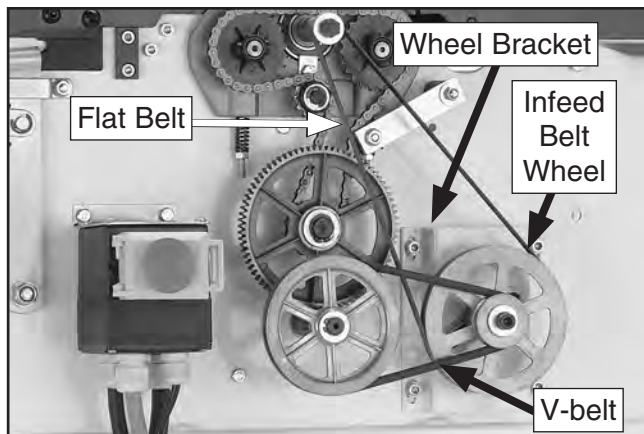

Figure 48. Cap screw locations.
- Loosen the four cap screws on the wheel bracket, and one cap screw on the infeed belt wheel (see **Figure 48**), then raise the infeed belt wheel.
- Push the wheel bracket (see **Figure 48**) down and tighten the four cap screws, then push the infeed belt wheel down and tighten the cap screw loosened in **Step 3**.